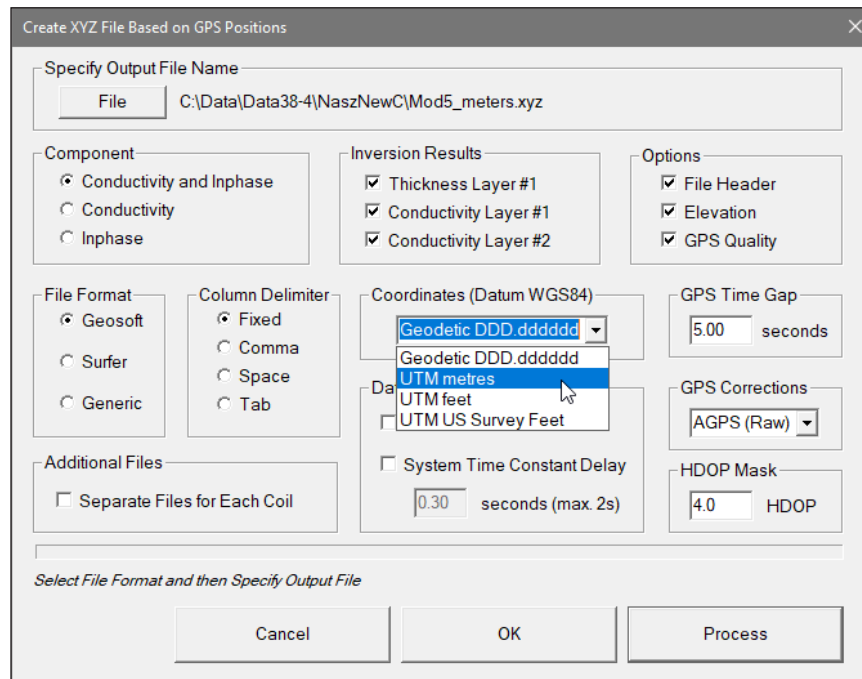

Figure 7.10 Selecting Coordinates in Create XYZ File Based on GPS Positions window
- Select the desired EM38-4 component in the **Component** section (Figure 7.10).
- Select the appropriate option from the combo box labeled **Coordinates (Datum WGS84)** (Figure 7.10).